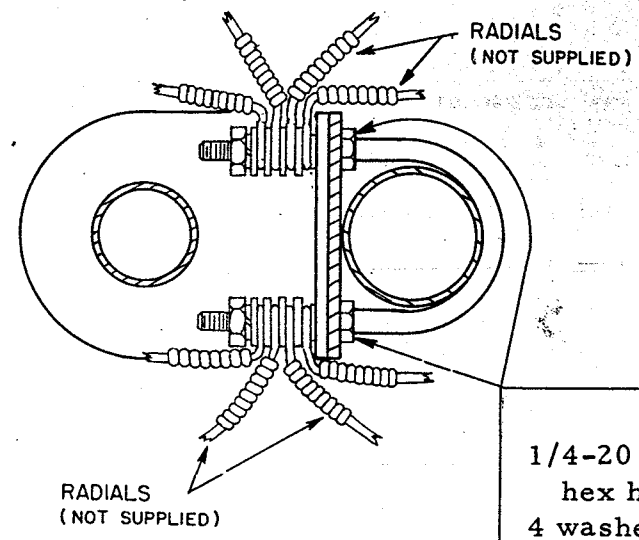

**FIG. 4**
10. Assemble the 3/8" x 13" tubes to the hub as shown in Figure 4, using the 6-32 machine screws, number 6 lockwashers and the 6-32 hex nut.
14. Install spider assembly as shown in Figure 4. It should be flat against the top of the 20 meter trap cover. Securely tighten the 6-32 x 3/4" screw with lockwasher and hex nut.